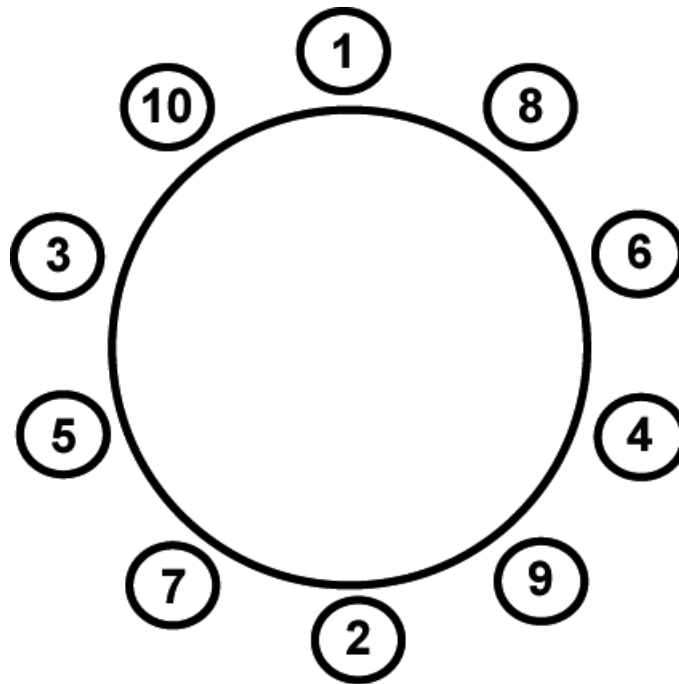

Figure 8-1 – Wheel Lug Torque Sequence
2. Tighten to 50 lb/ft of torque in the sequence shown in Figure 8-1.
3. Tighten to 450-500 lb/ft of torque in the sequence shown in Figure 8-1.